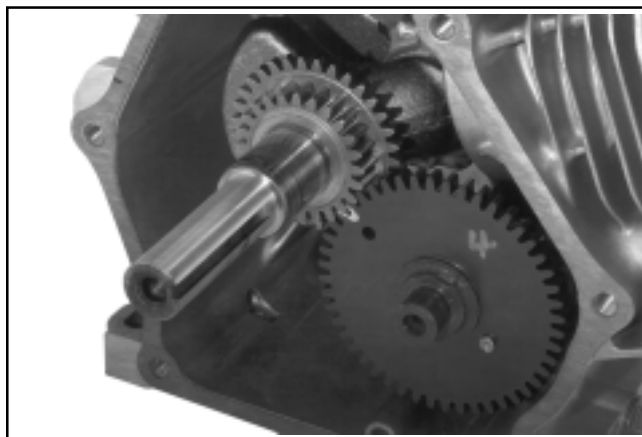

Figure 11-15. CS4, CS6. Aligning Crankshaft and Camshaft Timing Marks.
3. Rotate the crankshaft to TDC so the timing mark (dimple) on crankgear (smaller gear) is in the 4 o'clock position. Install the camshaft into the crankcase, aligning the timing marks on the two gears. See Figures 11-15 and 11-16.